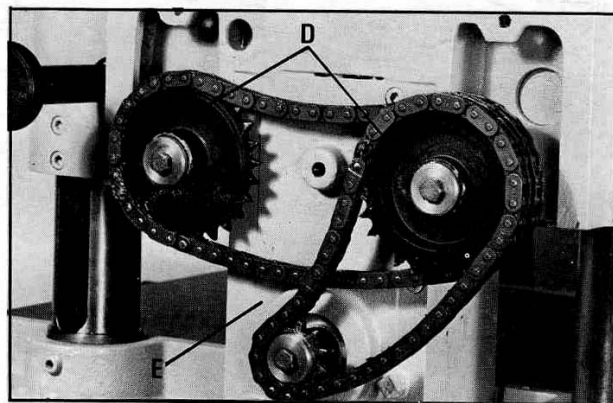

Fig. 43
When the feed rolls are engaged, they turn and feed the stock. The feed rolls slow automatically when the machine is under heavy load for best planing under all conditions. The feed rolls are driven by a chain and sprocket drive (D) Fig. 43, which takes power directly from the cutterhead through the oil bath gear box (E).